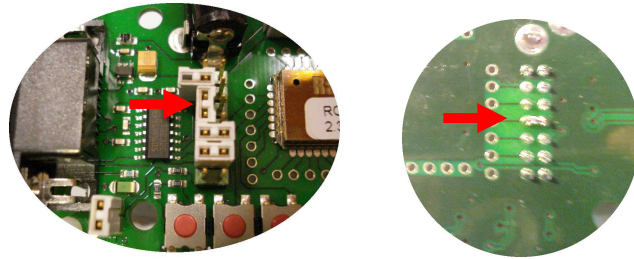

Figure 4. Jumper placement and solder connection for connecting RTS to CONFIG
Modification procedure: On the bottom side of the PCB (layer 2), solder a connection between Pin 7 and Pin 8 on P13 as seen in Figure 4, right picture, if required (the pins might already be connected on newest PCB revisions). Then place the jumpers as shown in Figure 4, left picture. Config-mode is now enabled when RTS signal is asserted low. RTS can normally be controlled via various terminal-programs.
3.1	Added chapter "Control CONFIG-mode via the RS232 port". Added figure 4 and corrected text under figure 3.